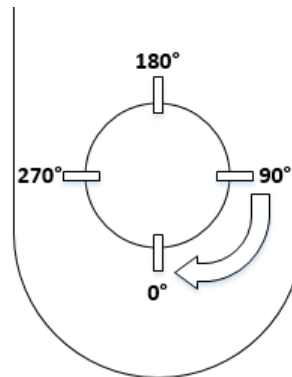

Figure 2
Step 2: Next mark the location you are at on the sprocket. Rotate to 90°, 180°, and 270° making sure at each point you are still able to slide the chain side to side and not be pulled away at any point. (Figure 2)